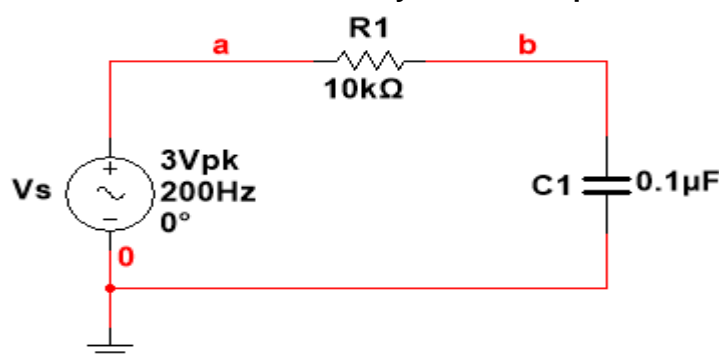

Fig.B.1.1: Circuit diagram of a series RC circuit
1. Measure the practical values of the circuit components (R,C) shown in Fig.B.1.1 using DMM & LCR meter and note down in the Table 1.1.
2. Construct the circuit shown in Fig.B.1.1 on the bread board. Connect Channel 1 of the oscilloscope across the source V_S (positive red port to node 'a' and negative black port to node '0' i.e. ground). Connect the channel 2 at node 'b' (positive red port to node 'b' and negative black port to node 0 i.e. ground).